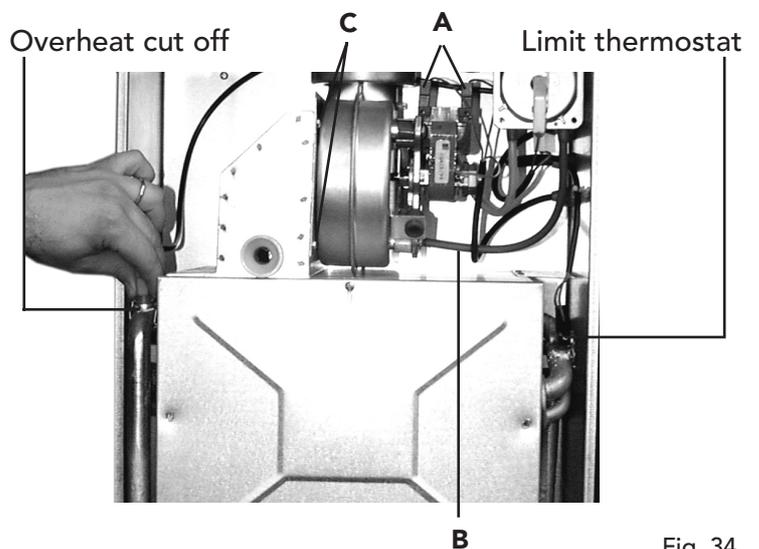

Fig. 34
**7.09 Removal of fan (fig. 34)**
**7.10 Limit thermostat, or overheat cut off thermostat (fig. 34)**